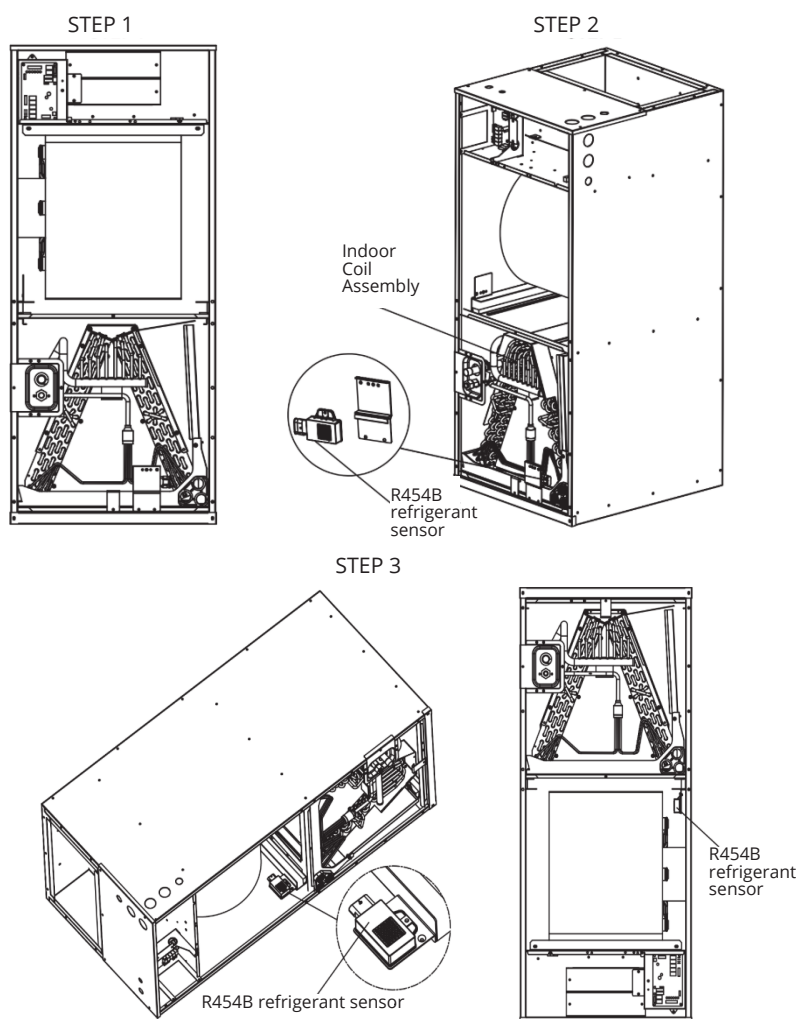

Figure 3-3 Vertical downflow & horizontal left applications conversion
- Reinstall the refrigerant sensor at the location shown in Figure 3-3.
R454B refrigerant leakage sensor is configured for the indoor unit. To meet different installation scenarios, the refrigerant sensor has two installation positions. The factory set of the refrigerant sensor is applied to the vertical upflow and horizontal right applications. The refrigerant sensor needs to be relocated for vertical downflow and horizontal left. Before installing the indoor unit, check whether the refrigerant sensor is correctly installed according to Figure 3-3.
1. Remove the screws, upper side plate, lower side plate, filter cover plate, and support strip. Disconnect the refrigerant sensor on the control board. See Figure 3-3, step 1.
2. Cut off the zipper buckle of the refrigerant leakage sensor harness, and then unscrew the screws from the support strip and the refrigerant leakage sensor mounting plate to remove the sensor. See Figure 3-3, step 2.
3. Reinstall the indoor coil 180° from its original position and install the refrigerant leakage sensor in the position shown in Figure 3-3, step 3.
4. Replace the wiring harness in the correct position and secure it in place. Insert the refrigerant sensor cable back into the control board. See Figure 3-3, step 3.